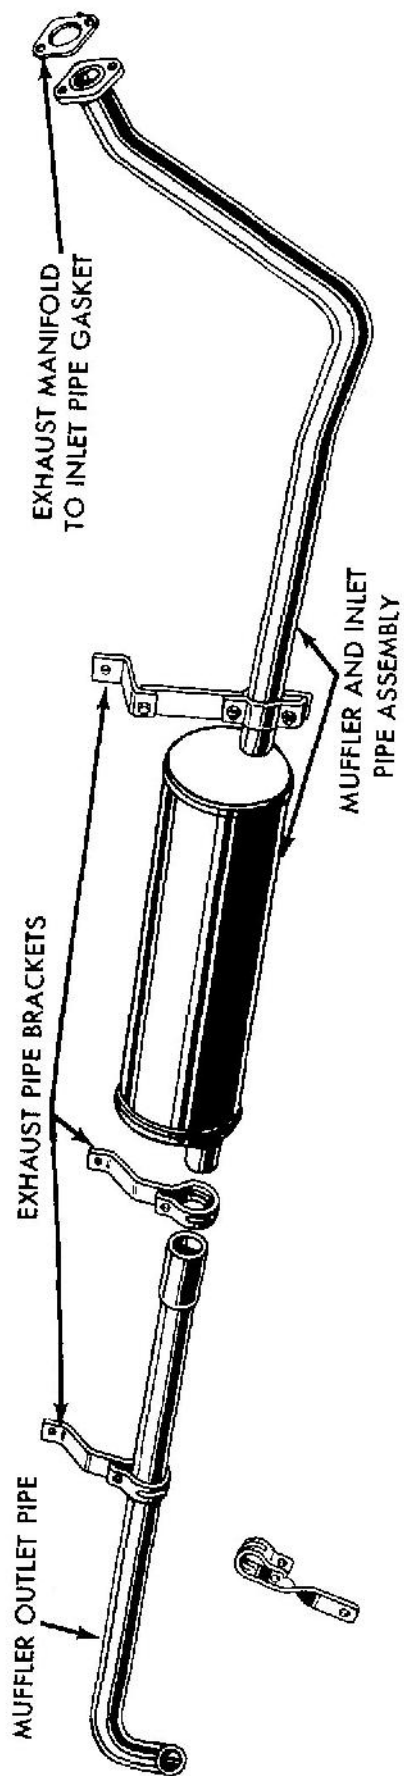

Figure 29 — Exhaust System
70. EXHAUST PIPE (fig. 29).
inlet exhaust pipe, it is necessary to remove the muffler as an assembly as the muffler inlet pipe is welded to the muffler. Remove the two bolts which connect the muffler inlet pipe flange and the exhaust manifold flange. Remove the two bolts from the muffler pipe bracket clamp at the front of the muffler (fig. 29). Remove the bolt from each of the three outlet pipe brackets which hold them to the frame. Remove the muffler and pipe assembly. To install the inlet exhaust pipe, reverse the sequence of the steps of the removal procedure, replacing the gasket between the exhaust pipe flanges if damaged.
71. MUFFLER (fig. 29).
b. **Replacement.** Remove the two bolts which connect the muffler inlet pipe flange and the intake manifold flange. Remove the two bolts from the muffler pipe bracket clamp at the front of the muffler (fig. 29). Remove the bolt from each of the three outlet pipe brackets which hold them to the frame. Remove the muffler and pipe assembly. To install, reverse the sequence of the steps of the removal procedure, replacing the gasket between exhaust pipe flanges if it is damaged.